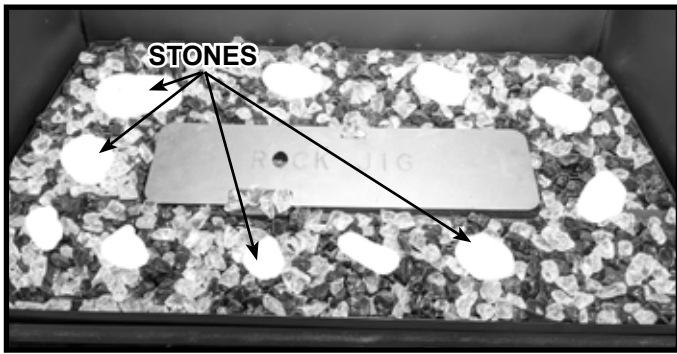

Figure 11.7 Place Rocks
- Place rocks in a random manner around the rock jig as shown in Figure 11.7.